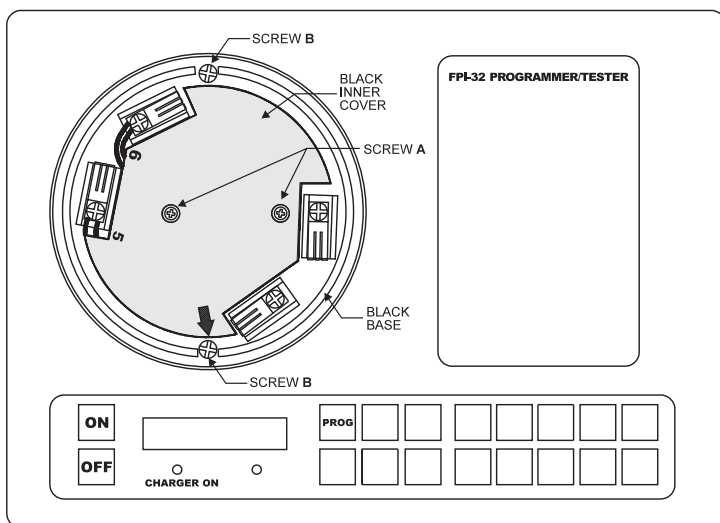

Figure 1
3. Remove the black inner cover inside the detector base by removing the 2 screws marked **A**, as shown in Figure 1. Set the screws and the cover to one side.
5. Remove the black base by removing the 2 screws marked **B**, as shown in Figure 1. Discard the black base.